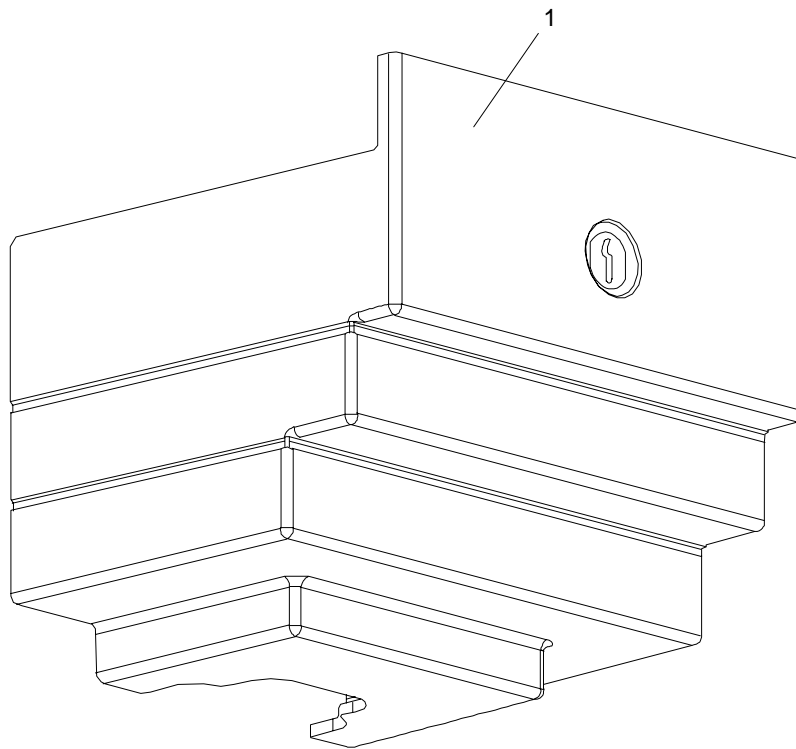

Fig. 2.6. Connector panel cover
- Position the Antenna (1) panel on the front of the BTSE.
- Tighten the four screws (2).
- Open the lower cover (1, Fig. 2.6.) of the BTSE to gain access to the connector panel using the appropriate wrench supplied.